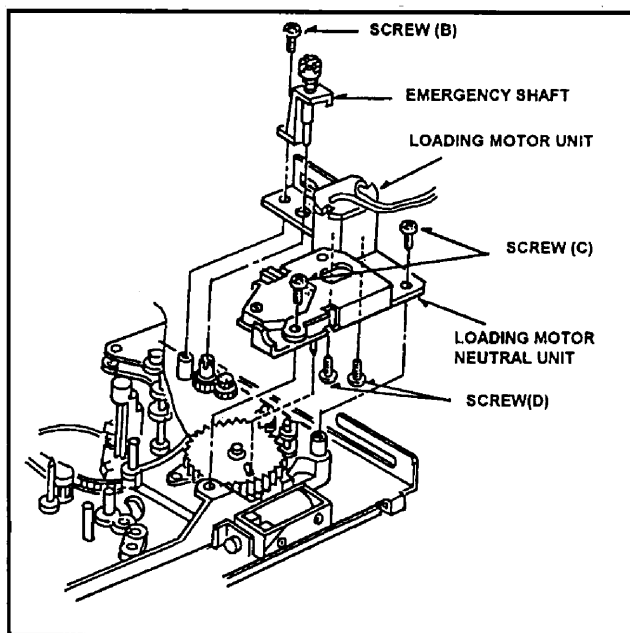

Fig.M11
3. Remove the Pinch Solenoid and Pinch Solenoid Lever.(Refer to item 4&5).
4. Unscrew the screw(B)to remove the Emergency Shaft as shown in Figure M11.
5. Unscrew the 2 screw (C)to remove the Loading Motor Unit as shown in Figure M11.
6. Unscrew the 2 screw(D)to remove the Loading Motor Neutral Unit as shown in Figure M11.